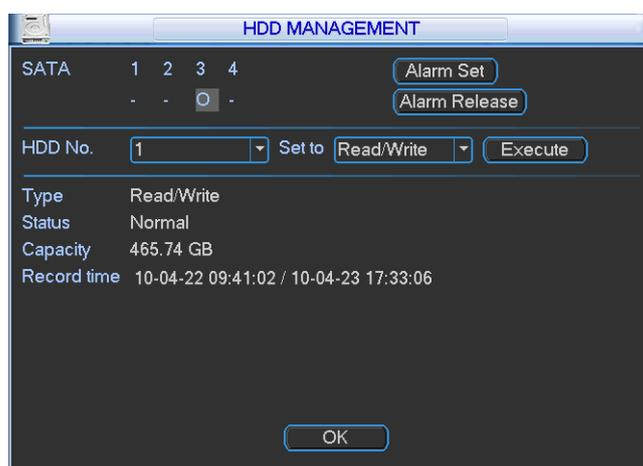

Figure 4-13
In the main menu, from Advanced to HDD management, you can set one or more disk(s) as redundant. You can select from the dropdown list. See Figure 4-13. System auto overwrites old files once hard disk is full.
- Set redundant disk(s) as read-only disk or read-write disk (Main menu->Advanced->HDD management). Set current read-wrote disk as redundant disk. See Figure 4-13. System needs to reboot to get setup activated. Now you can search or playback file in redundant disk.